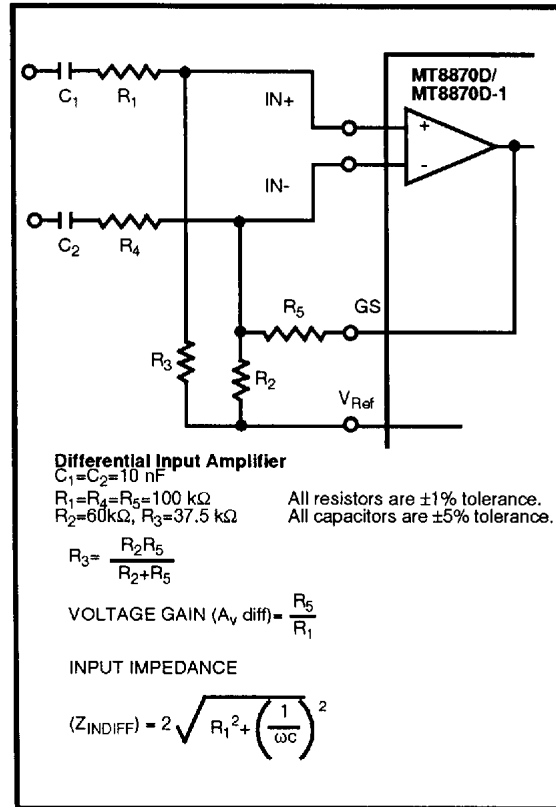

Figure 6 - Differential Input Configuration
The input arrangement of the MT8870D/MT8870D-1 provides a differential-input operational amplifier as well as a bias source ( $V_{Ref}$ ) which is used to bias the inputs at mid-rail. Provision is made for connection of a feedback resistor to the op-amp output (GS) for adjustment of gain. In a single-ended configuration, the input pins are connected as shown in Figure 10 with the op-amp connected for unity gain and  $V_{Ref}$  biasing the input at  $1/2 V_{DD}$ . Figure 6 shows the differential configuration, which permits the adjustment of gain with the feedback resistor  $R_5$ .